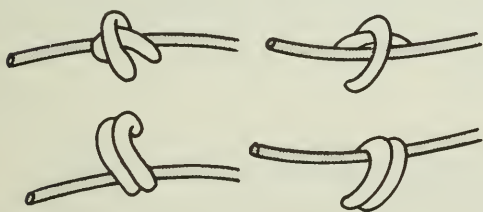

Fig. 39 Double stapling rise or dip wires.
5. On very steep dips or rises, where there is considerable wire tension pulling on staples, double stapling is advantageous (Fig. 39).